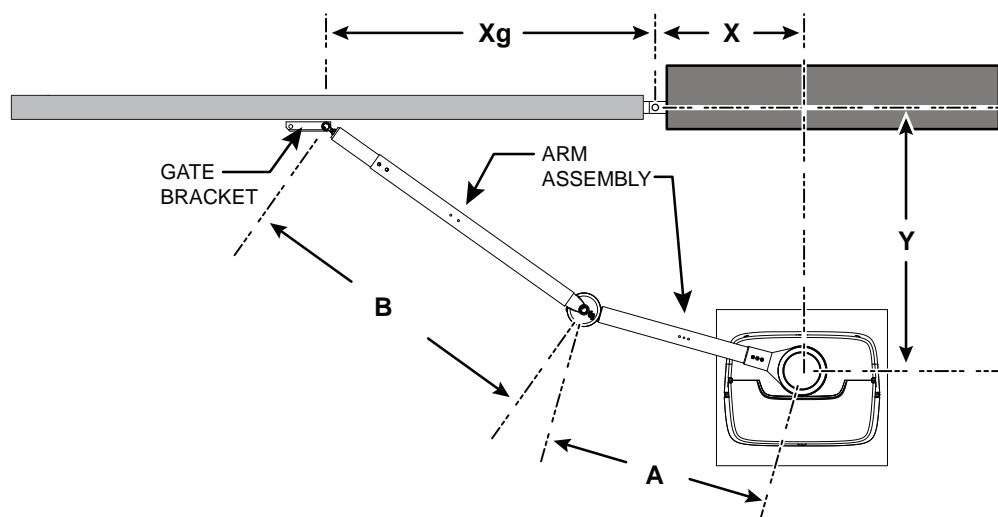
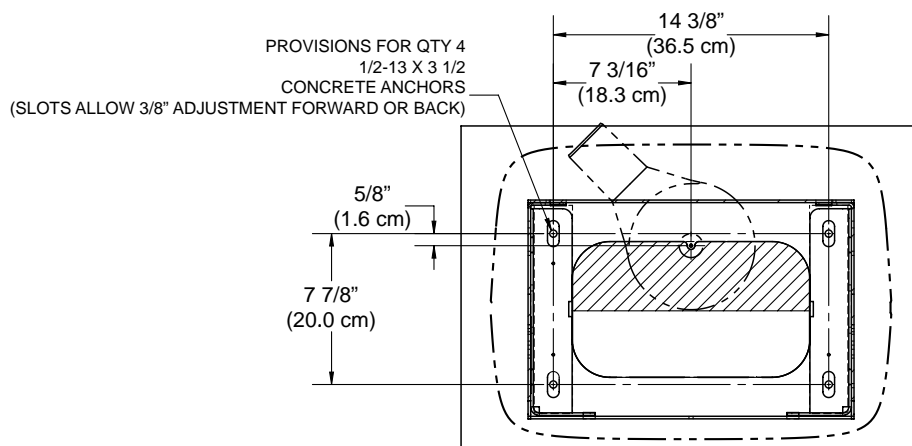

Figure 3. Operator Position Right Hand Opening
Figure 5. Anchor Hole Dimensions
2. Determine the location of the operator from the gate hinge (Figure 3).
6. Mark Xg on the gate and mark the anchor hole positions on the concrete pad (Figure 3, Figure 5).
4. Mark the new anchor locations (Figure 5).
8. Mark Xg on the gate (Figure 3).